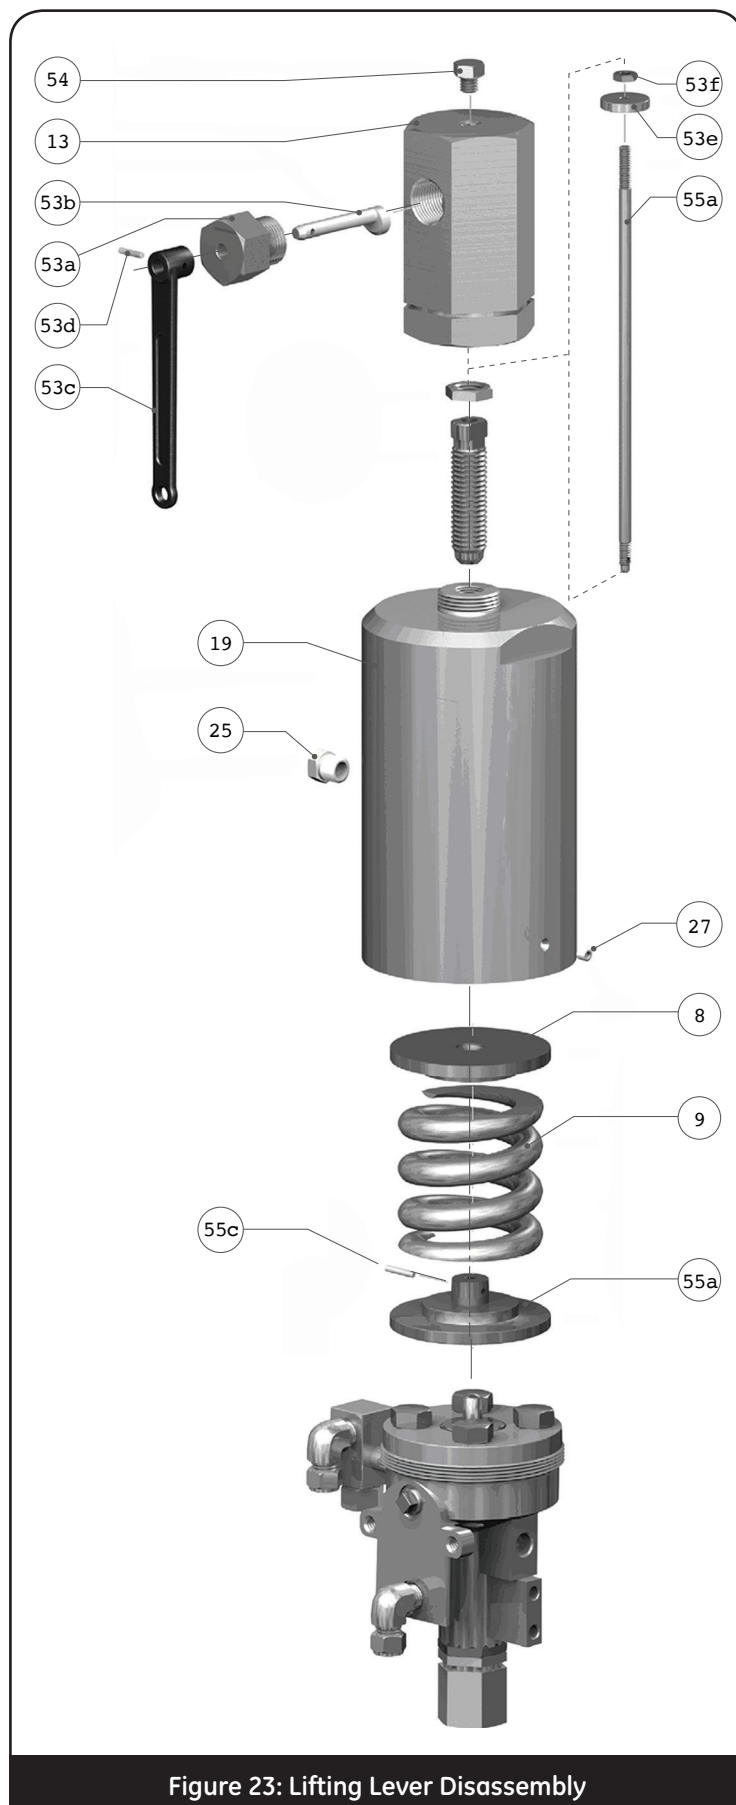
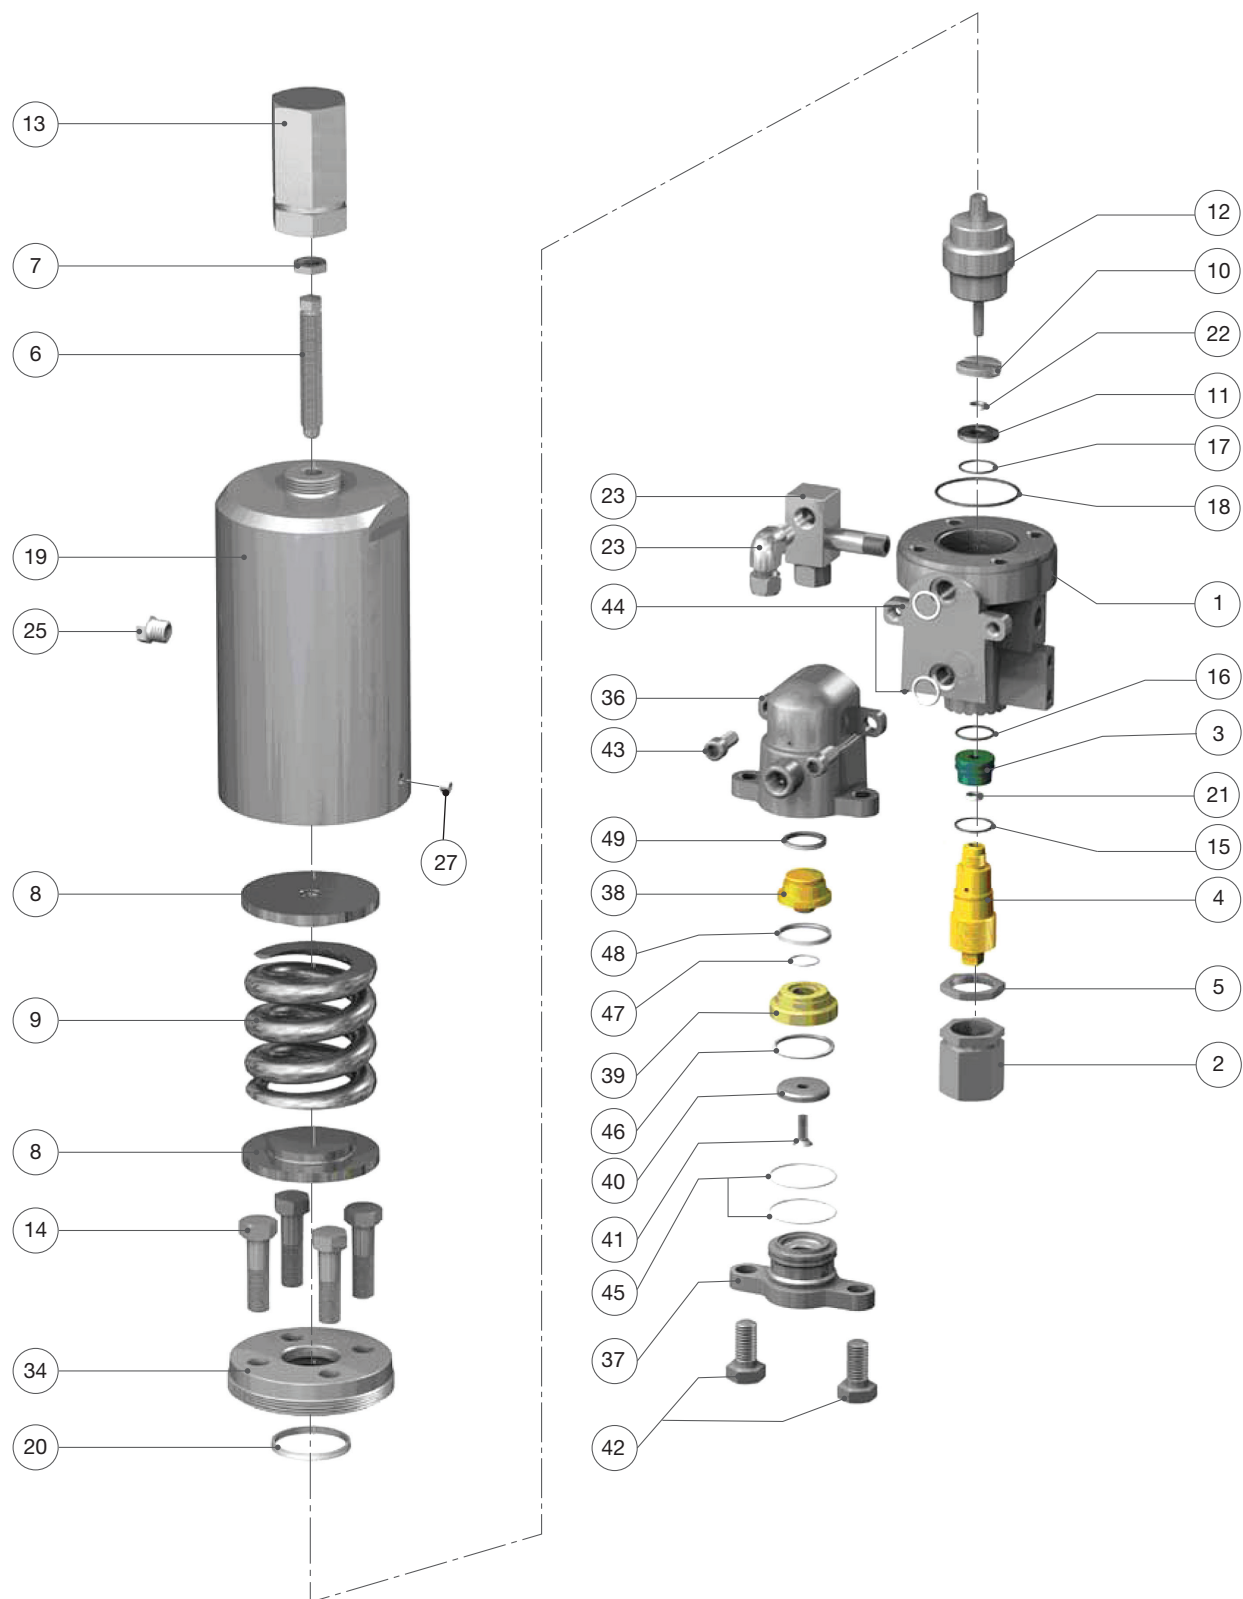

Figure 23: Lifting Lever Disassembly
Figure 24: 39MV07 Disassembly
3. If a lifting lever is installed, also use Figure 23 to remove the Lifting Lever assembly. Then return to Figure 22 to continue disassembly.
Figures 23 and 24
3. If a lifting lever is installed, also use Figure 23 to remove the Lifting Lever assembly. Then return to Figure 24 to continue disassembly.
3. If a lifting lever is installed, also use Figure 23 to remove the Lifting Lever assembly. Then return to Figure 25 or 26 to continue disassembly.